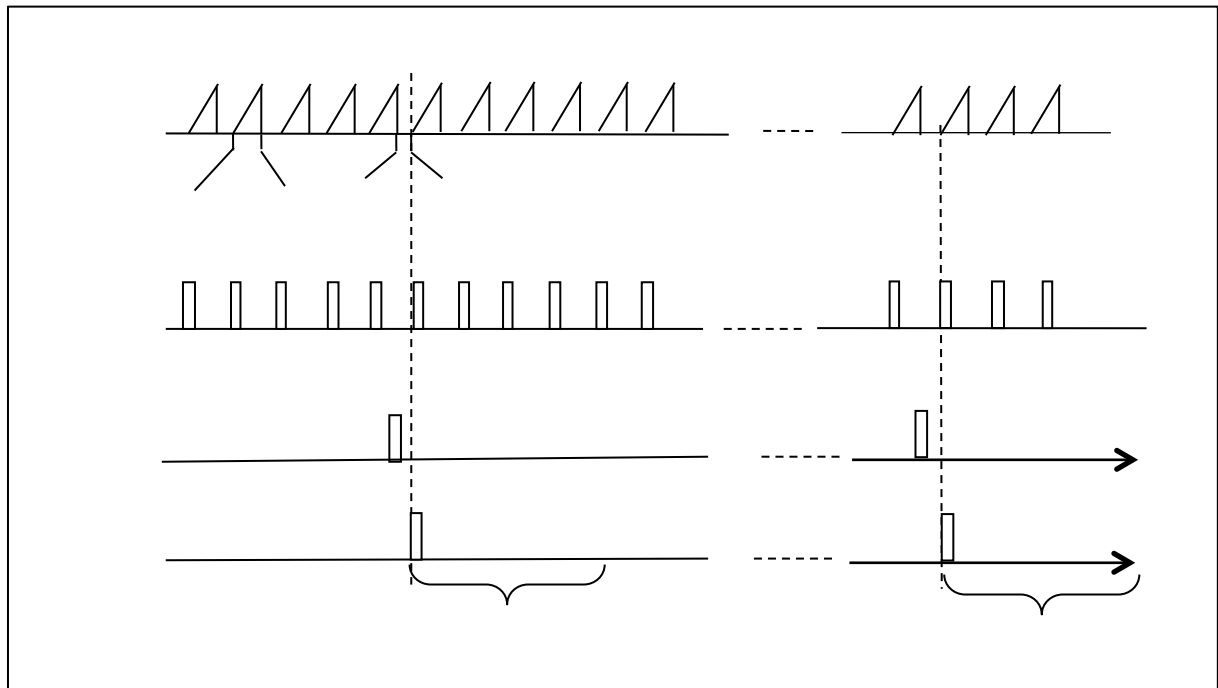

Figure 3: trigger sequence in the burst mode
- **In burst mode**, hundreds to thousands of profiles are measured consecutively. This measurement is triggered by an event trigger. The hard trigger emitted by the chronology decoder enables the next TTL emitted by the AWG to trigger the recording of hundreds of profiles consecutively, cf Figure 3. Only the time of the 1st point of the 1st profile is dated. To ensure that the acquisition system and the AWG remain synchronized, they share the same 10 MHz time reference.